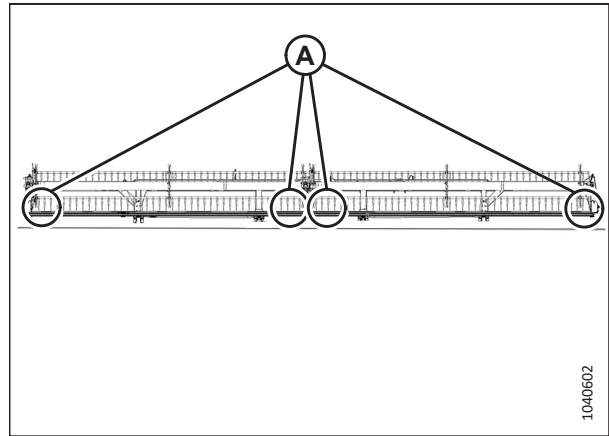

Figure 5.25: Double-Reel Header Measurement Locations
- Figure 5.25, page 212 – double-reel headers